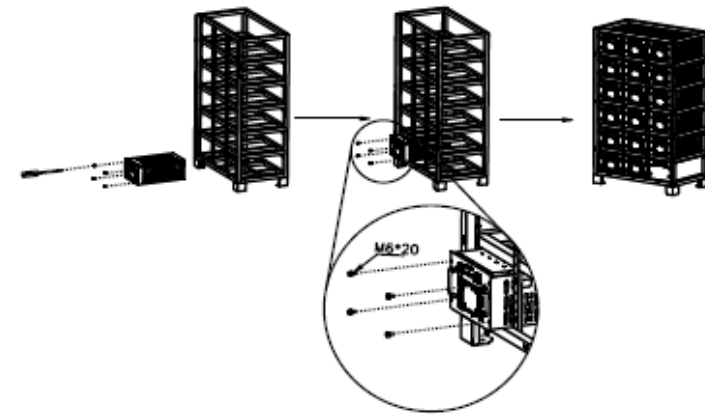

Figure-17 Installation diagram of the battery module(picture is for reference only)
4) Place the battery rack in the corresponding position of the battery pack according to Figure-17, and fix the battery rack to the battery pack with the matching M6 screw.